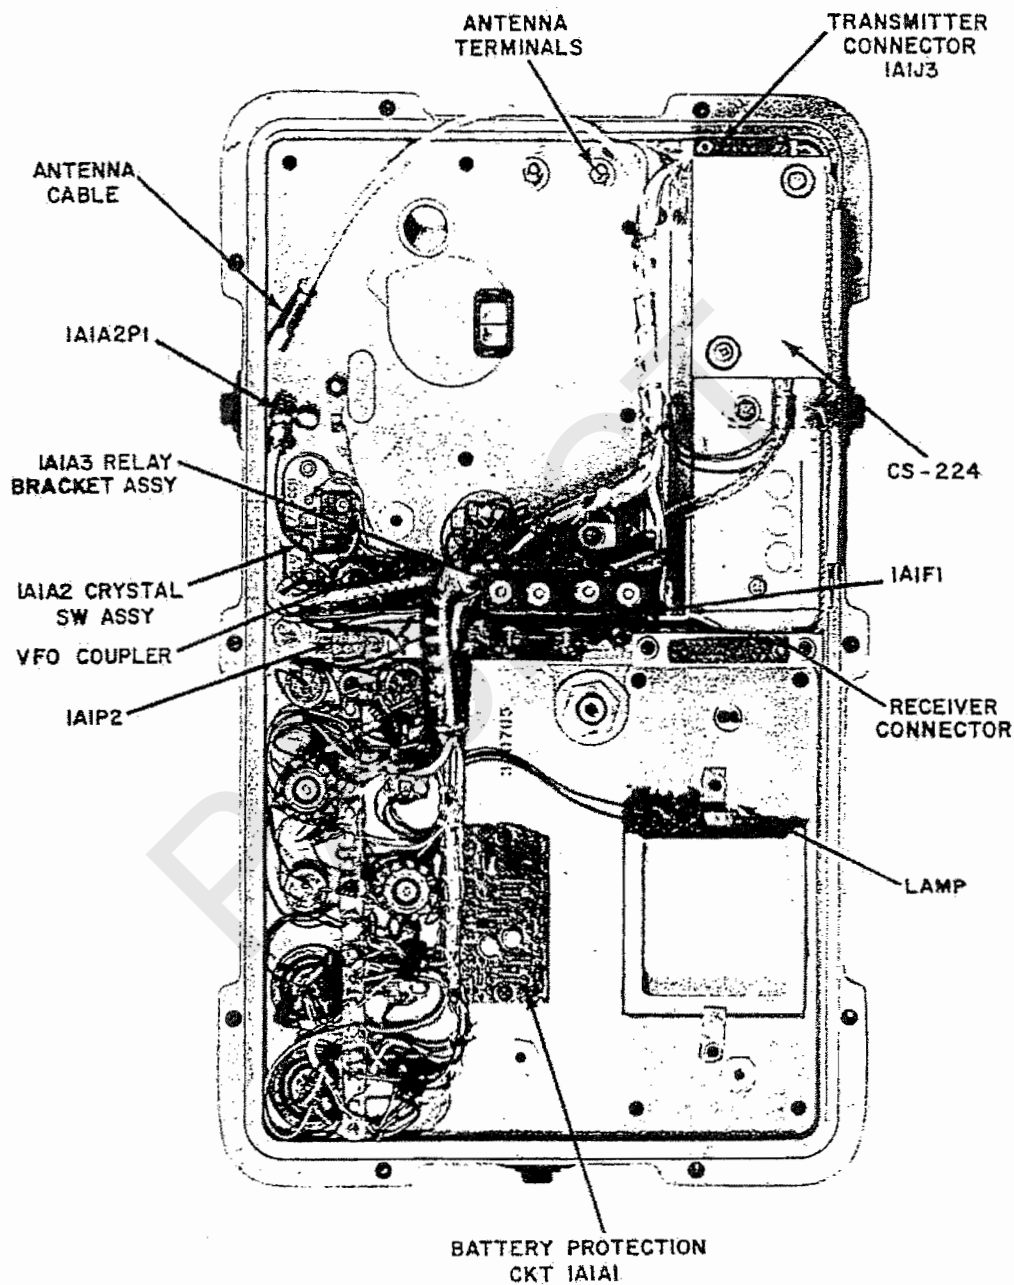

Figure 5-12. TAR-224 Front Panel (bottom view)
- (4) Disconnect RF connector 1A1A2P1 (figure 5-12.)